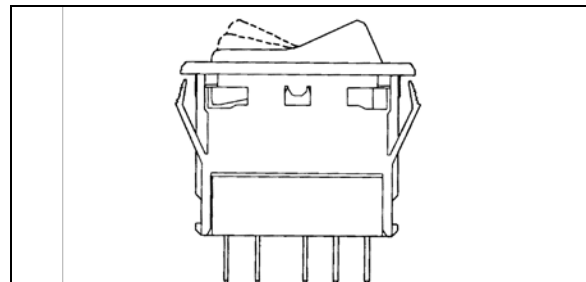

FIGURE 41: SWITCH
3. To install a new switch, reverse the procedure (Figure 41).